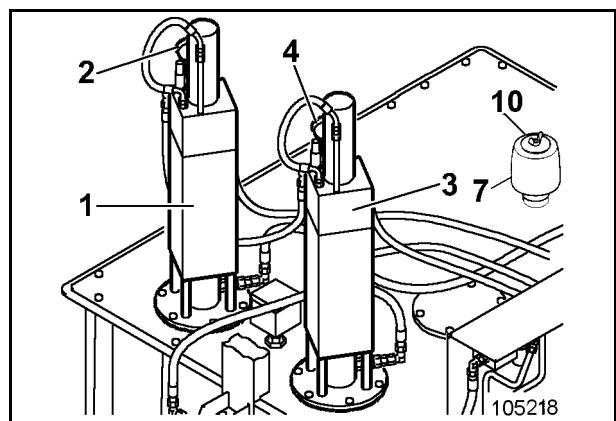

Fig. 3-134:
- Unscrew wing nut (10, Fig. 3-134:).